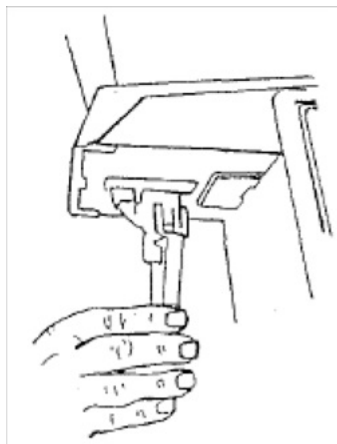

Figure 8.
- A. Push the handle assembly straight up through the rectangular hole until the clips snap into place see Figure 8.